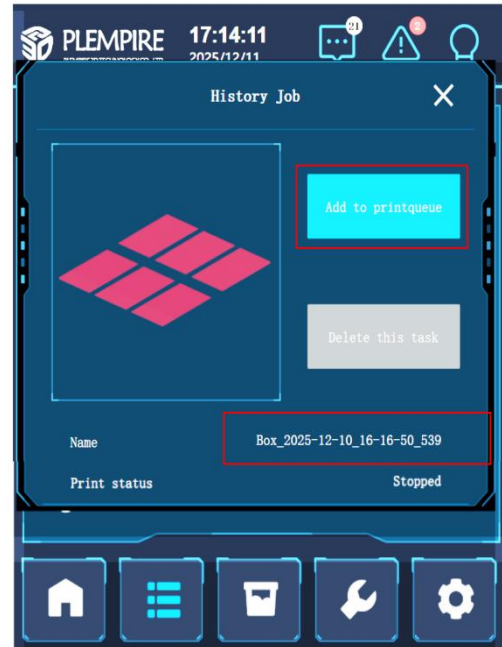

Figure 1-4 History Job Information
- The historical job is added to the print queue, as shown in Figure 1-4.